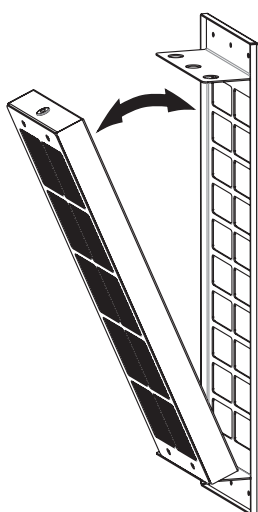

Fig. 8
3. ➤ Remove the active carbon filter (Fig. 8).